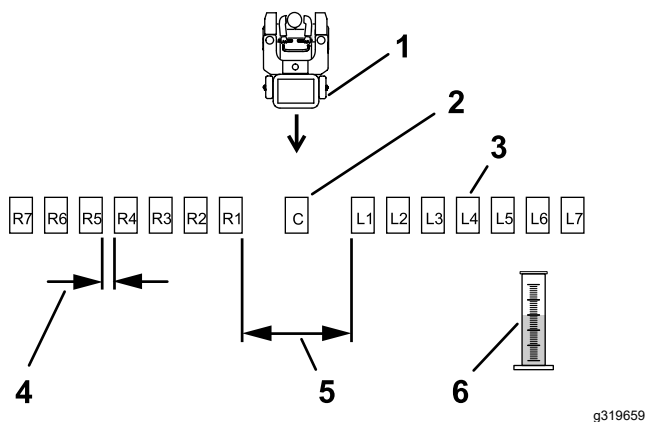
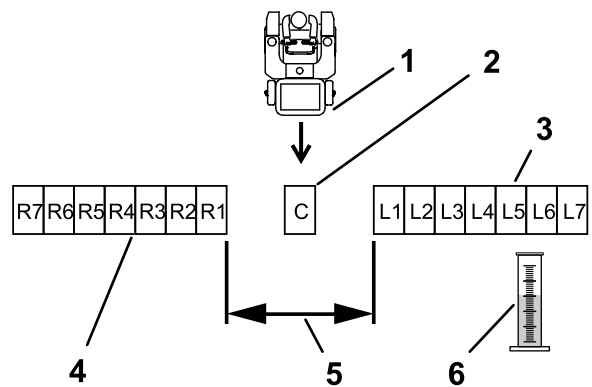

Figure 23
Figure 24
3. Place the remaining pans in a straight line as shown in Figure 23 or Figure 24.
Space six additional pans, on each side, 30 cm (12 inches) apart as shown in Figure 23.
Place six additional pans, on each side, with no gap in between each pan (Figure 24).
8. Label each graduated measuring cylinder to correspond with the distribution pans (i.e. ...L2, L1, Center, R1, R2....) (refer to Figure 23 and Figure 24).